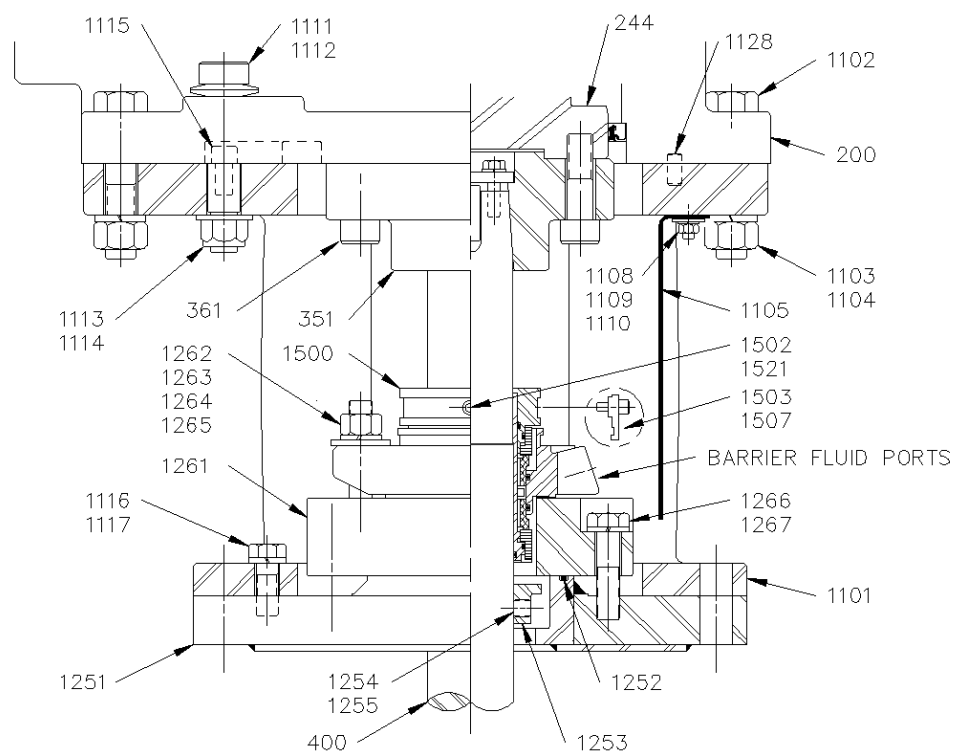

Figure 6. N Style – Double Mechanical Seal with Adapter Plate
8. Orient the barrier fluid ports as shown in Figure 6, page 24, with the ‘Quench’ and ‘Drain’ ports in line with the openings in the pedestal handhole covers.